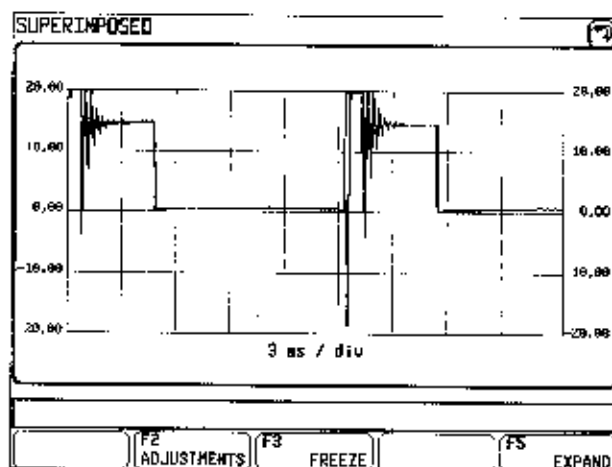

Figure 2-23
Figure 2-23 shows a superimposed display that has been fully expanded.
- [F5] to superimpose the waveforms (see Figure 2-23).